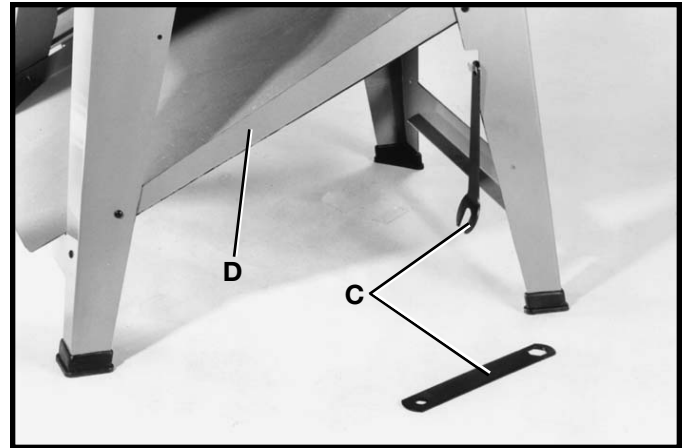

Fig. 109
3. Arbor wrenches (C) Fig. 109, can be stored on one of the two notched legs.
The saw stand support panel (D) Fig. 109, also serves as a natural built-in dust chute. This dust chute (D) allows the sawdust to conveniently escape out the rear of the saw stand and away from the work area.